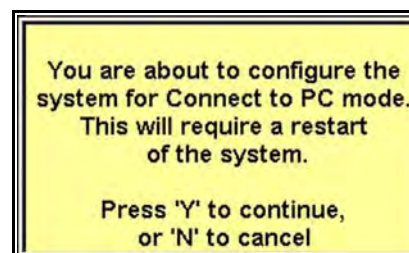

Figure 2-19 Sample Connect to PC message
3. Press **Y** to select and a configuring for Connect to PC message displays (Figure 2-19).